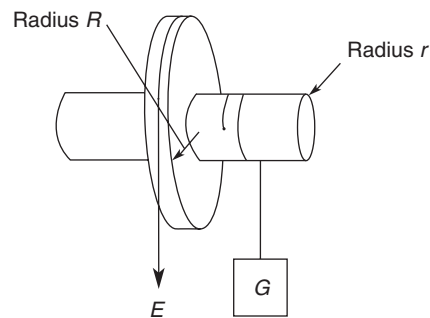

Fig. 35
Figure 35 shows a simplified version of a common arrangement by means of which a load G is raised by applying an effort E .
EXAMPLE Calculate the effort required to raise a load of 250 kgf using the arrangement shown in Figure 35, if the radius of the large wheel is 20 cm and the radius of the axle is 8 cm.
15. Complete the following table, which refers to the wheel and axle illustrated in Figure 35, page 73: